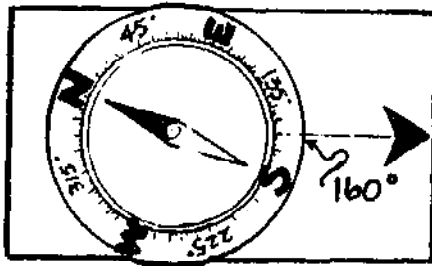

Figure 28
3. Read and note the bearing from the dial directly over the direction-of-travel arrow. The compass (Fig. 28) indicates that the tree is  $160^{\circ}$  east of magnetic north.